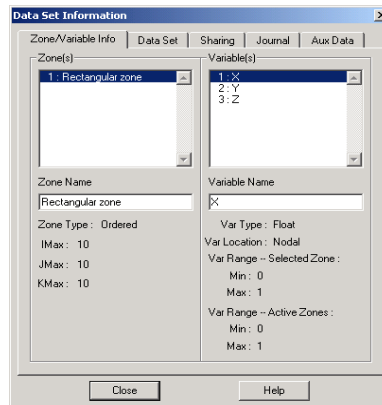

Figure 24-3. The Data Set Information dialog.
24.2.1.2. Data Set Information. To view a host of information about the current data set, select Data Set Info on the Data menu. You may also select Specific Equations from the Alter sub-menu of the Data menu. The Data Set Information dialog appears, as shown in Figure 24-3. This dialog has five pages providing information on the zones and variables, general data set information including source files, variable sharing, the data journal, and auxiliary data. Zone/Variable Info is the default page; it provides a list of zones and variables in the data set.